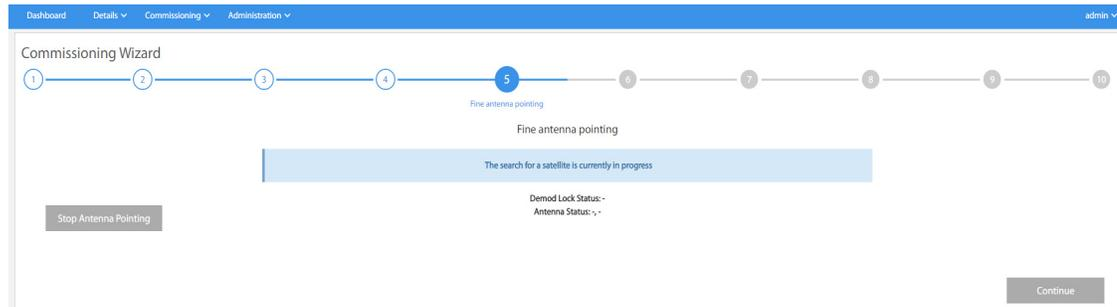

Figure 3-10. Fine Antenna Pointing
3. Click **Continue and Position Antenna**. Antenna Pointing starts automatically. The user will not be able proceed (see Figure 3-10) with commissioning until the antenna and demod are locked.